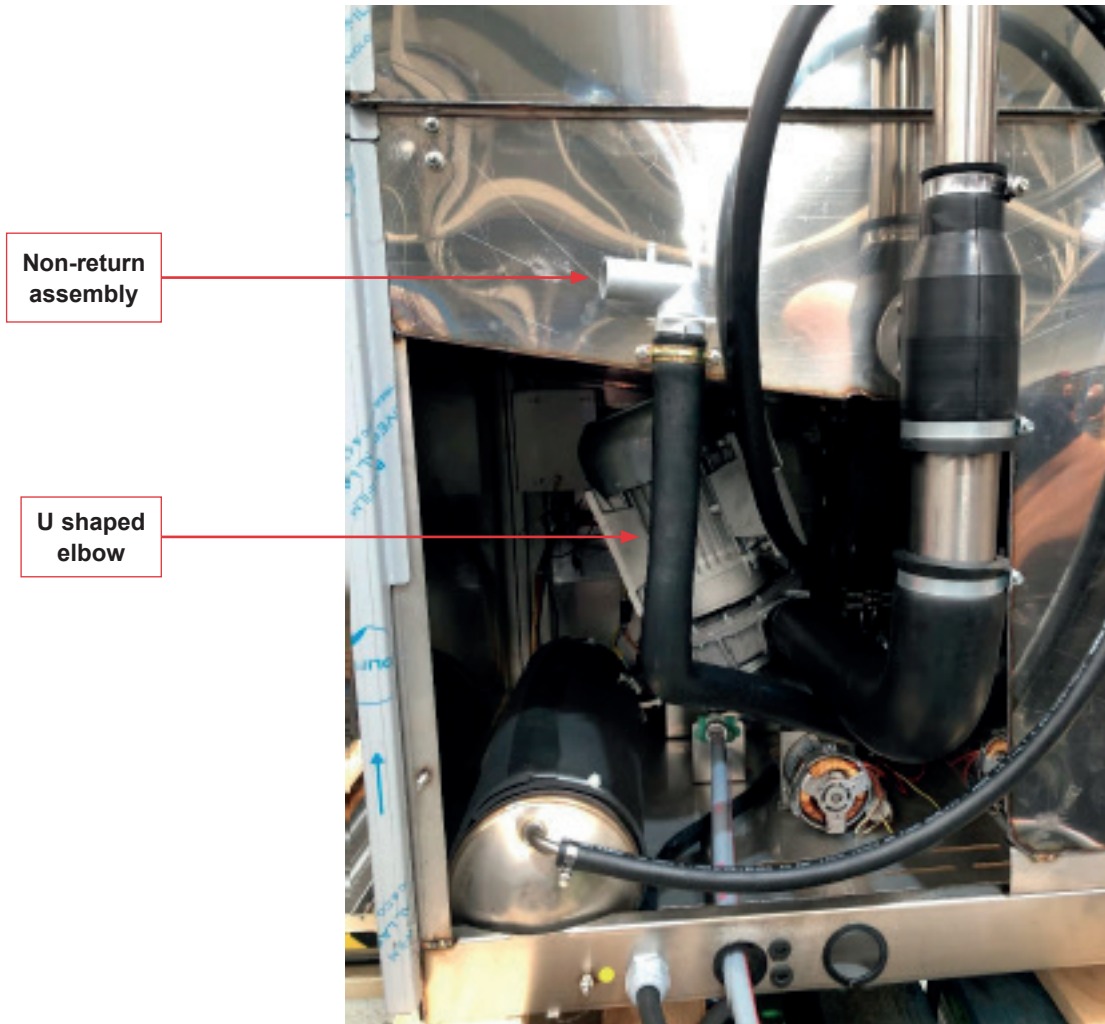

Figure 5: Drain non-return assembly.
- On one of the ends of the U SHAPED ELBOW, attach the non-return assembly (elbow + membrane + clamp + coupler) using a type 25-40L jubilee clip. **See figure 5.**